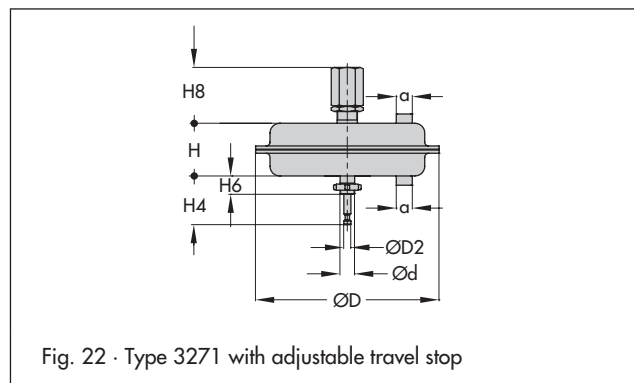

Fig. 22 · Type 3271 with adjustable travel stop
2) Travel stop on both sides (Fig. 22)